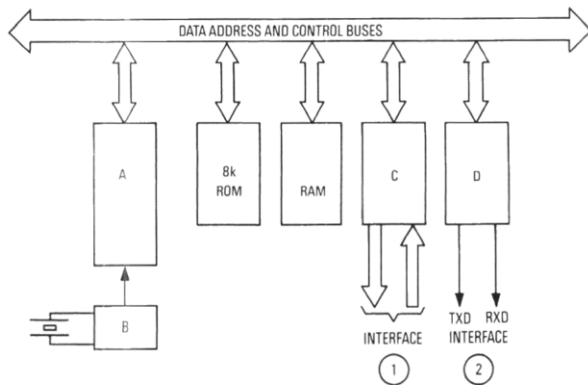

Fig. 1
**Q1** Refer to Fig. 1 which shows a fundamental microprocessor system.
**Q2** Refer to the system in Fig. 1